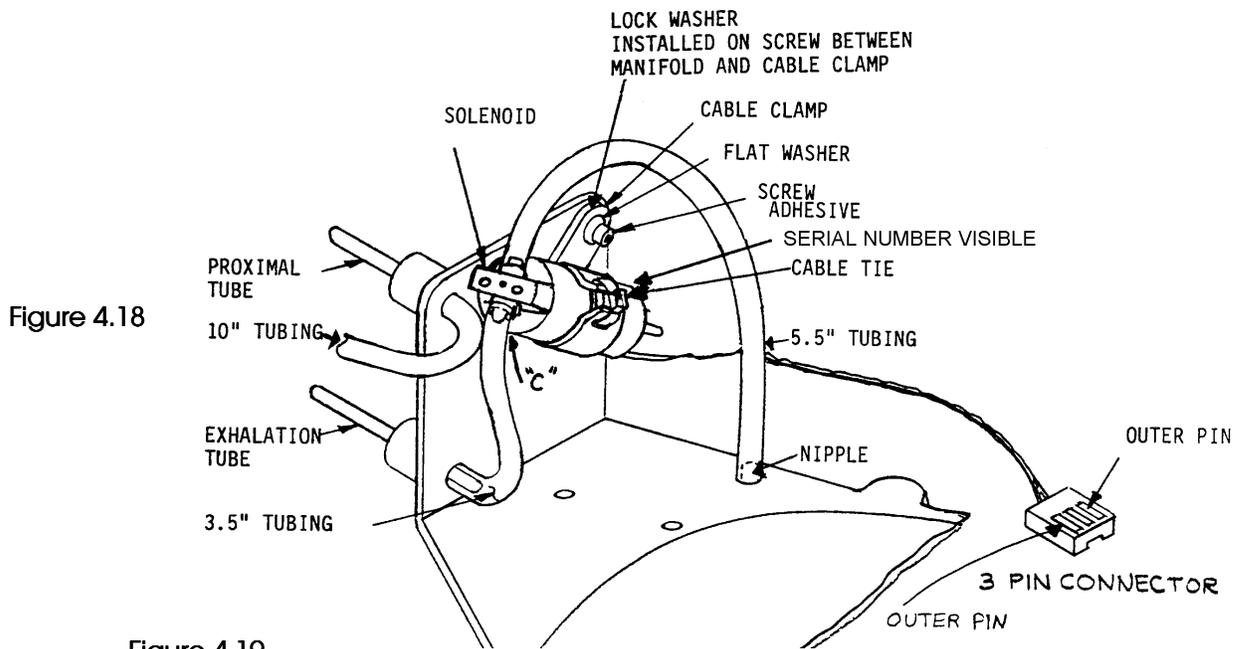

Figure 4.18
4. Inspect manifold assembly for proper assembly and verify 10 brass inserts are present. Replace internal tubing as needed (Figure 4.18).